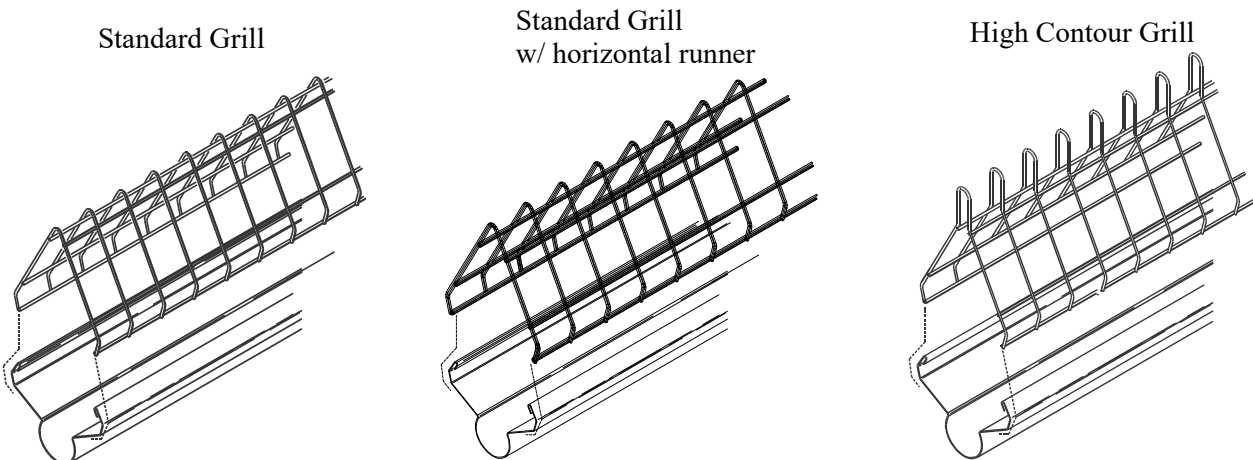

Figure 35.Grill Installation
The ULTRAFLO® Breeder Feeder offers the choice of (3) Grill styles, the standard Grill, standard Grill (w/ horizontal runner wire), & the Hi-Contour Grill. Refer to **Figure 35** for applicable Grill installation diagram. Additionally, a variety of spacings are available for each grill style.